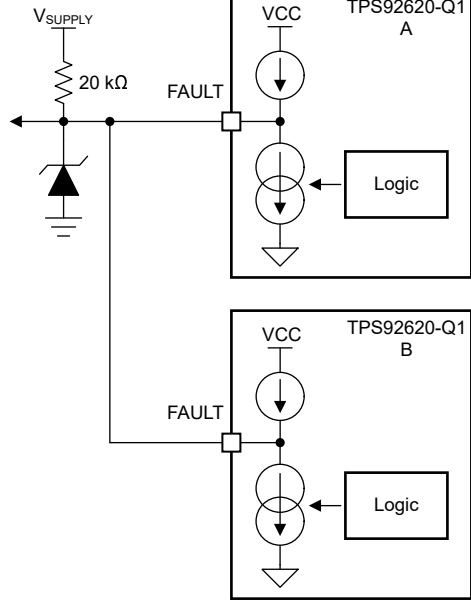
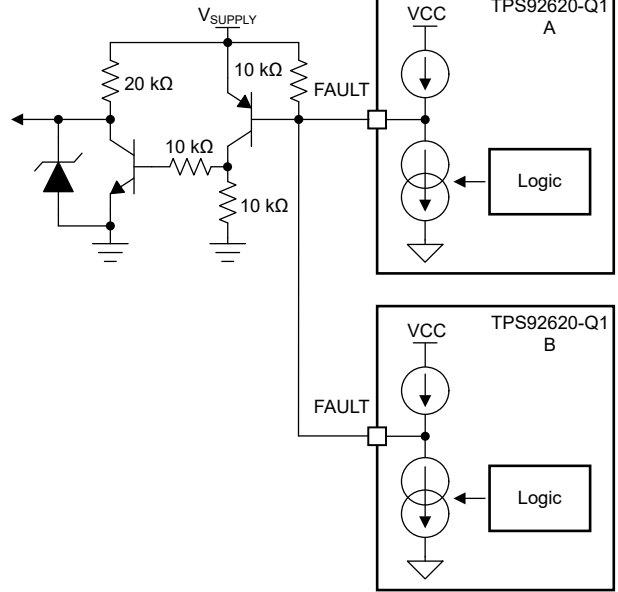

図 6-6. FAULT Bus for One-Fails-All-Fail Application
図 6-7. FAULT Bus for One-Fails-Others-On Application
Based on this feature, the TPS92620-Q1 device is able to construct a FAULT bus by tying FAULT pins from multiple TPS92620-Q1 devices to achieve one-fails-all-fail function as Figure 6-6 showing. The lower side TPS92620-Q1 (B) detects any kind of LED fault and pulls low the FAULT pin. The low voltage on FAULT pin is detected by upper side TPS92620-Q1 (A) because the FAULT pins are connected of two devices. The upper side TPS92620-Q1 (A) turns off all output current for each channel as a result. If the FAULT pins of each TPS92620-Q1 are all connected to drive the base of an external PNP transistor as illustrated in Figure 6-7, the one-fails-all-fail function is disabled and only the faulty channel device is turned off.